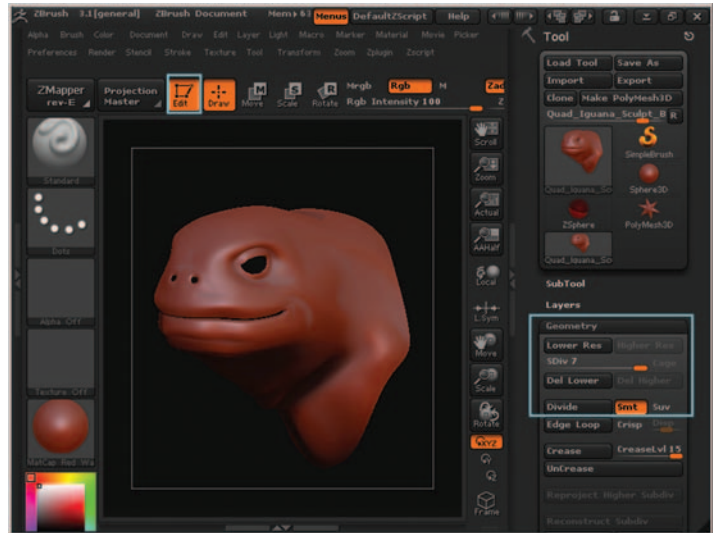

Figure 11.38 Subdivided mesh in the viewport. Edit is active, and the subdivision level is 7.
3. Use the Ctrl+D keys on the keyboard to subdivide the model. I have a powerful workstation, so I divided the model to 2804 million active points (subdivision level 7). Depending on the configuration of your hardware you may need to use fewer subdivisions. Figure 11.38 shows the subdivided mesh in the viewport, as well as the active Edit icon and the Geometry rollout displaying the subdivision level.